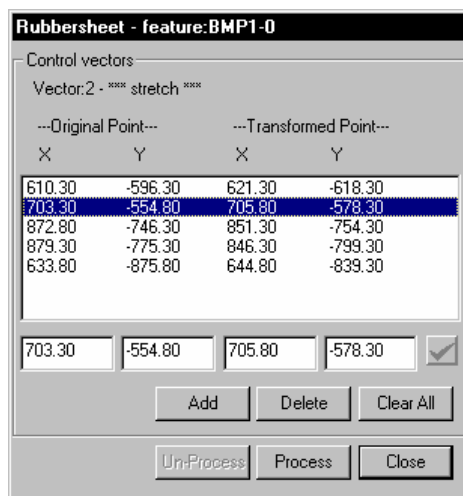

Figure 4.14: Rubbersheet Dialog
5. Type in the next set of coordinates for Vector 2 as shown in Figure 4.14.
7. Repeat the above steps for the three remaining vectors shown in Figure 4.14.